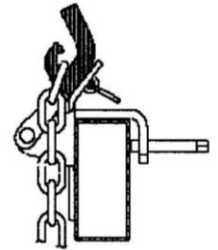

FIGURE 3
**FOR SAFE AND PROPER OPERATION, LIFT UNIT MUST BE MOUNTED LEVEL AND WITH THE SPRING BAR CHAINS AGAINST THE TRAILER FRAME (SEE FIGURE 3).**
1. Remove spring clip from back of unit [See figure 3].
7. Insert spring clip [See figure 3].